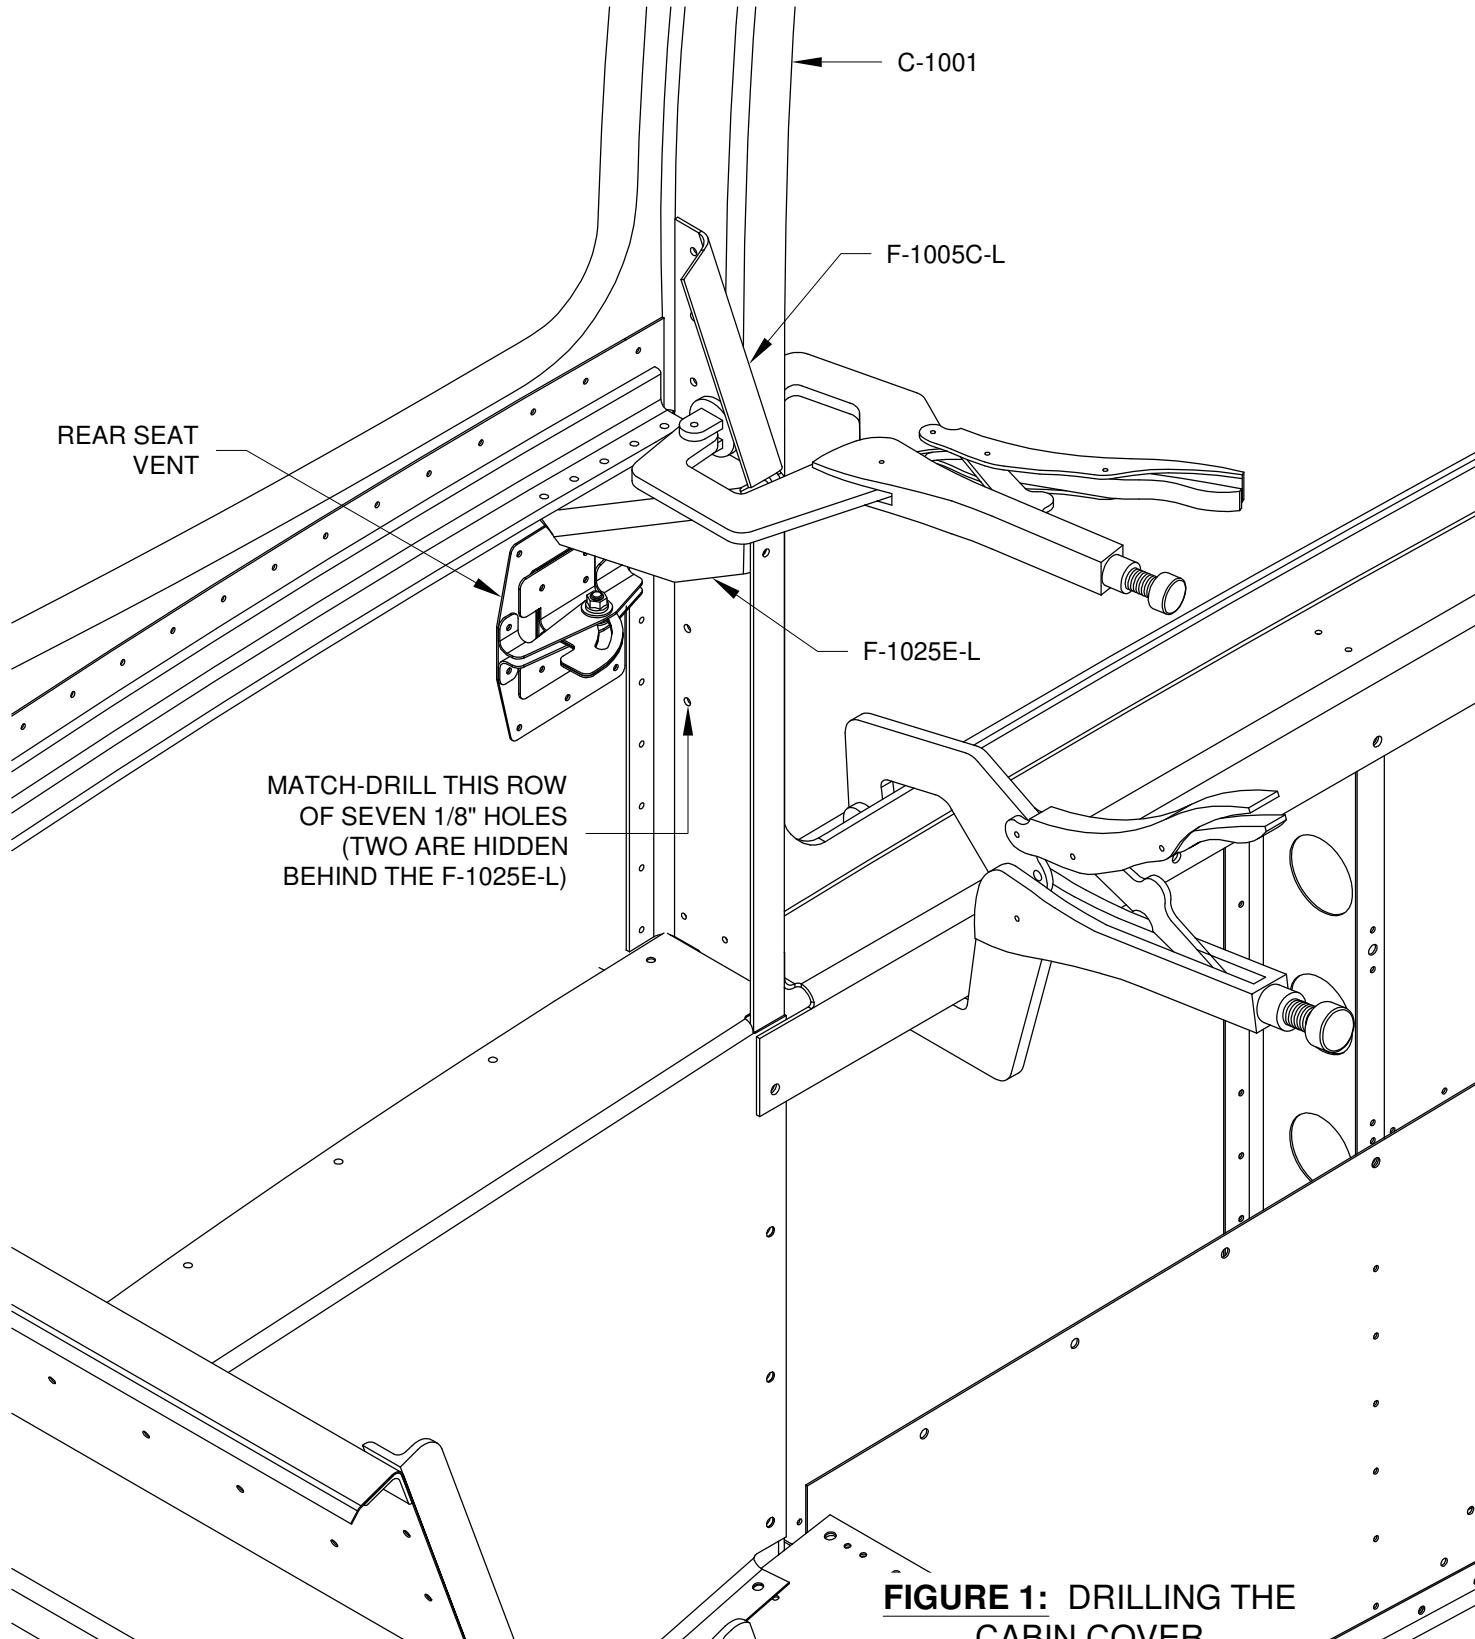

FIGURE 1: DRILLING THE CABIN COVER
Step 2: Using an angle drill or a long drill bit, match-drill #30 the seven 1/8" holes (see Figure 1) in both of the F-1005C Bulkhead Side Channels into the C-1001 Cabin Cover. Drill perpendicular to the bulkhead side channels and cleco while drilling.